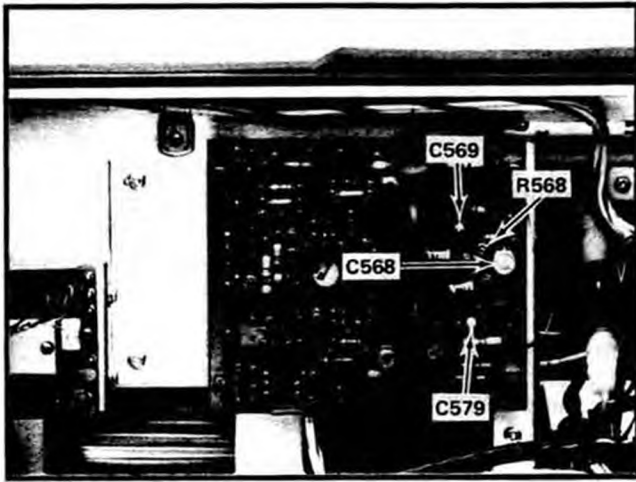

Fig. 5-20. Location of C569, C579, C568, and R568.
h. Observe the setting of adjustable capacitors C569 and C579 (see Fig. 5-20). Nominal setting for them is equal adjustment at or near minimum capacity (turned out).
n. ADJUST—C568 (see Fig. 5-20) to adjust timing to the same timing error observed at  $.05\ \mu\text{s}/\text{div}$  with X1 magnifier.
q. ADJUST—R568 (see Fig. 5-20) to adjust timing to the same timing error observed at  $.02\ \mu\text{s}/\text{div}$  with X1 magnifier.